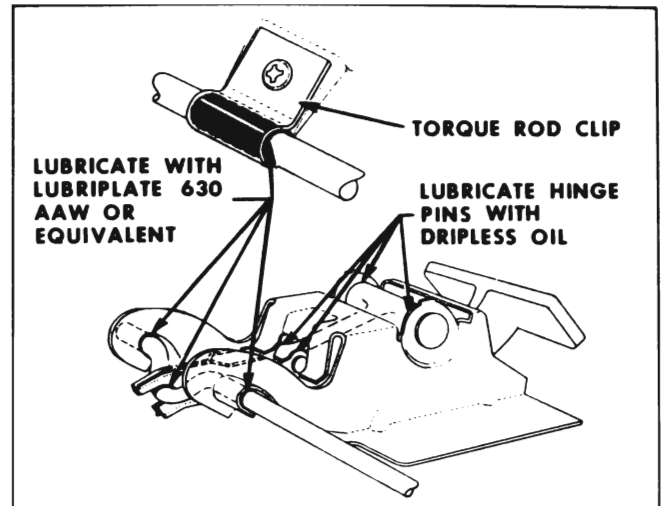

Figure 13-79—Back Door Hinge and Torque Rod Lubrication
1. Lubricate both right and left hinge pivot pins with an approved dripless oil. See Figure 13-79.
NOTE: When installing hinge torque rod, make certain torque rod is properly engaged with hinge, as shown in Figure 13-79, and align torque rod retainer with previously made marks.
4. After installation of torque rods, lubricate torque rod frictional surfaces on both right and left hinges and frictional surfaces of both torque rod clips with Lubriplate 630 AAW or equivalent. See Figure 13-79.
5. Lubricate both right and left hinge pivot pins with an approved dripless oil. See Figure 13-79. Lubricate torque rod frictional surfaces on both hinges and frictional surfaces of both torque rod clips with Lubriplate 630AAW or equivalent. See Figure 13-79.